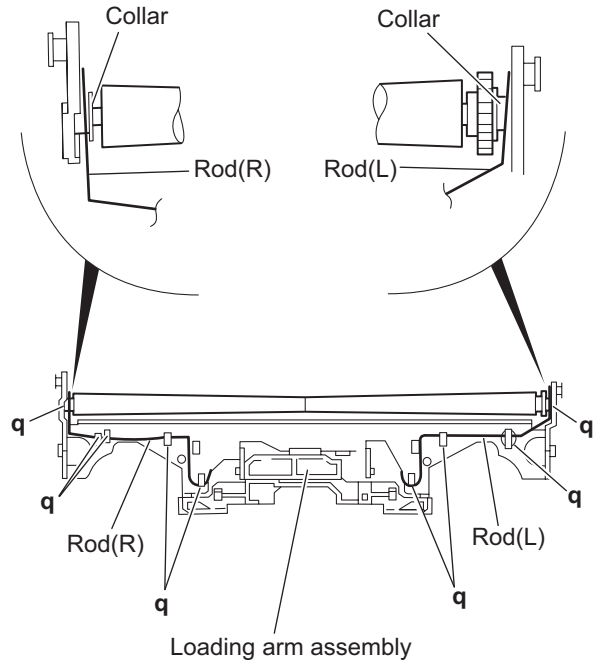

Fig.15
### 3.2.8 Removing the rod (L)(R)/roller assembly (See Fig.15 and 16)
- Release the rod (L) and (R) from the joints **q** at the bottom of the loading arm assembly (See Fig.15.)
After attaching the loading arm assembly to the roller assembly, attach the rod (L) and (R). Attach the rods to the right and left collars of the roller. (See Fig.15.)
When reattaching the rod (L) and (R) to the loading arm assembly, engage each joint as shown in Fig.15. As joints **q** of the rod (L), let the rod through **q** before reattaching it.